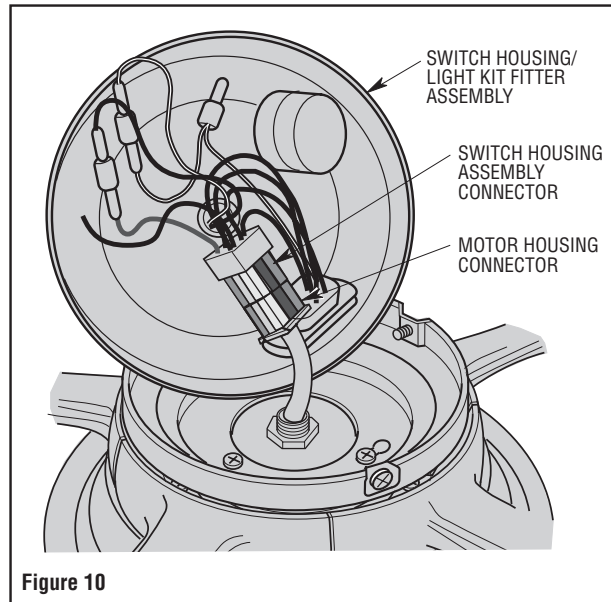

Figure 10
18. Engage the connector of the switch housing assembly with the motor connector (Figure 10). The two connectors are keyed and color-coded and must be mated correctly (color-to-color) before they can be engaged. Make sure the connector latch closes properly.
20. Remove the three switch housing screws from the switch housing cover plate. Position the switch housing assembly on the switch housing cover plate and align the holes in the switch housing assembly with the holes in the plate. Secure the switch housing assembly by installing the three screws (Figure 10).